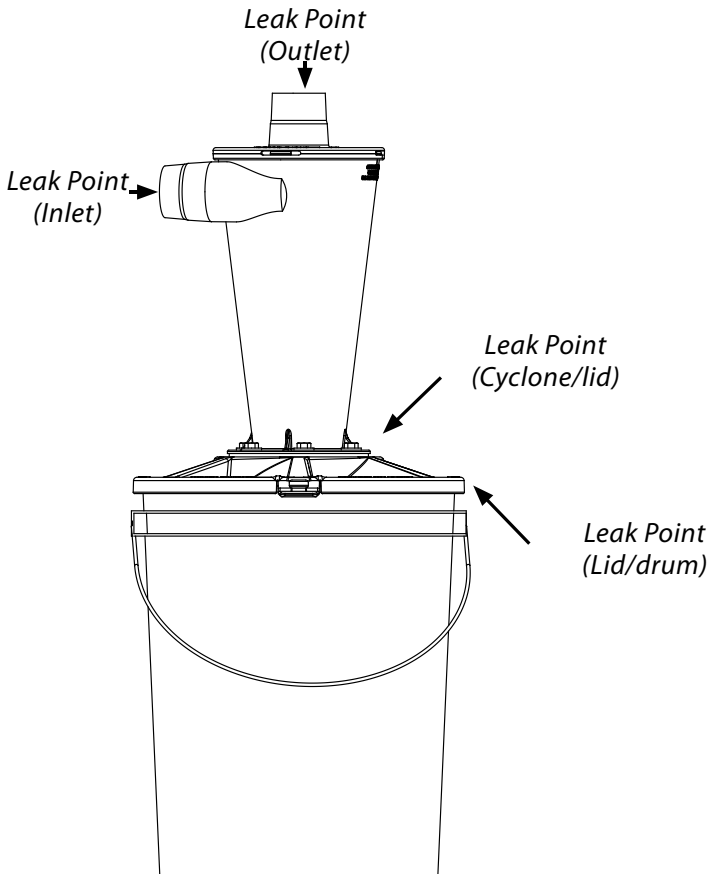

FIG. 6
- 6** Make sure there are no air leaks at the connections. Review [FIG. 6] for common leak points.